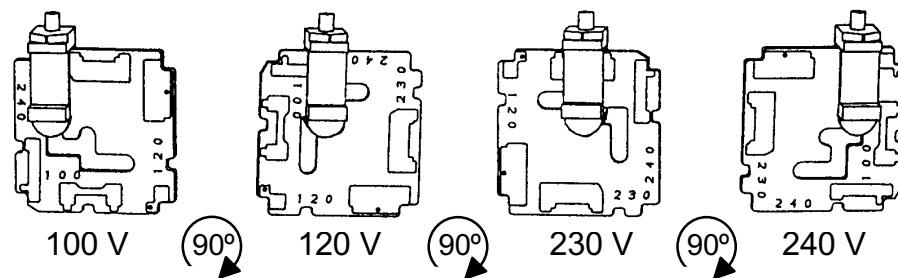

Figure 2-2. Voltage selector card positions
4. Orient the selector card so that the desired input voltage is readable at the bottom (see Figure 2-2). Then orient the indicator pin to point up when the desired voltage is readable at the bottom, with the indicator pin assembly seated in the notch on the board edge.